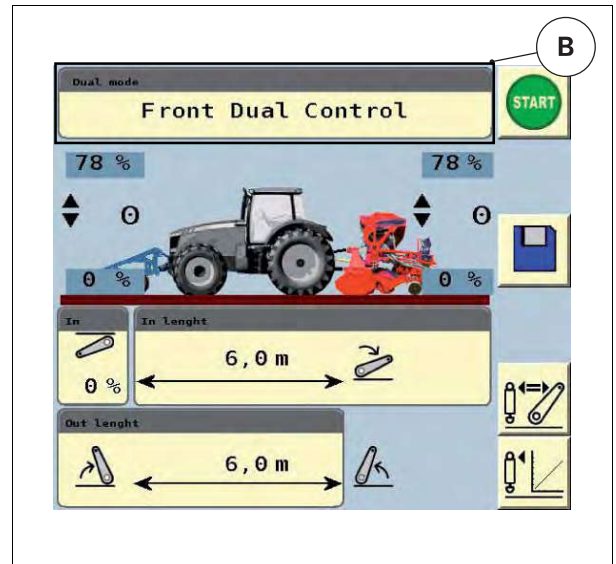

Fig. 2.
- Use the encoder to select the upper section of screen (B) fig. 2, and press the encoder.